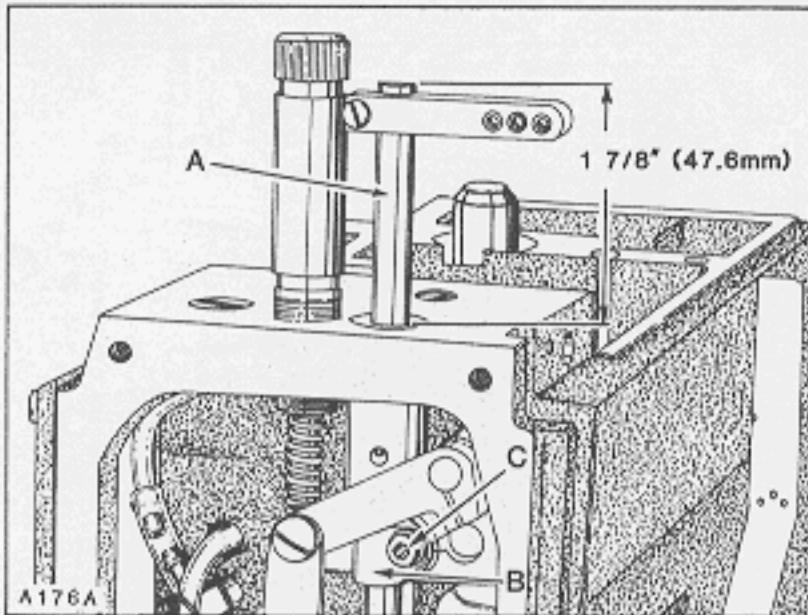
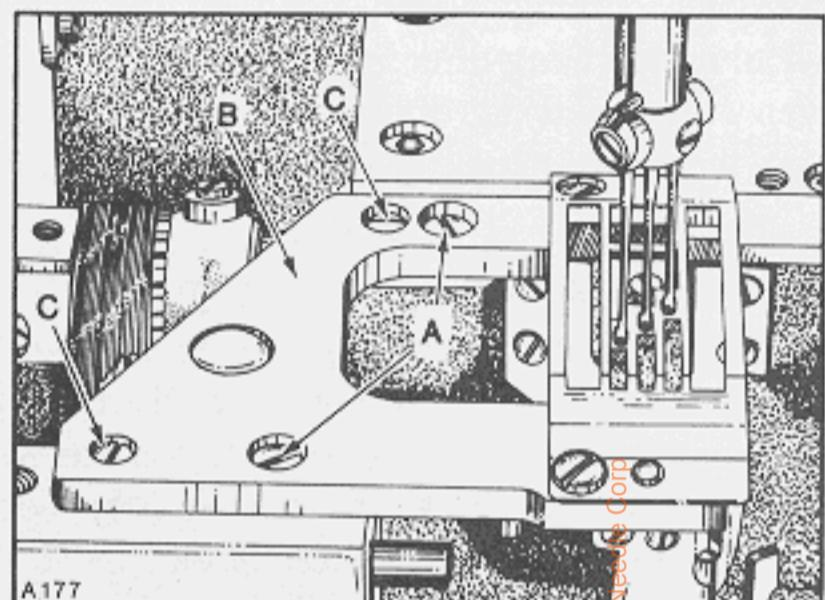

Fig.7
Fig.8
Rotate handwheel to ensure that needles center in the needle holes of throat plate as shown in Figure 8. Adjustment can be made by loosening screw (C, Fig. 7) slightly, allowing needle bar to be rotated as required, while being careful to maintain the temporary height setting and tighten screw (C) AS SPECIFIED. An additional 4-way directional adjustment of the throat plate can be accomplished as follows:
Insert a new set of needles. As a temporary setting, the TOP of needle bar (A, Fig. 7) should be approximately 1 7/8 inches (47.6mm) from the TOP of upper needle bar bushing when needle bar connection (B) is positioned at TOP of STROKE as shown in Figure 7. Adjustment can be made by loosening screw (C), reposition needle bar up or down as required and tighten screw (C) VERY LIGHTLY.
IMPORTANT: Adjustment of throat plate must be coordinated between needles and feed dog; refer to "FEED DOG SETTINGS". Loosen two screws (A, Fig. 8) in throat plate support (B). Loosen two screws (C) which secure locating ferrules, allowing the throat plate support to be repositioned slightly. Tighten screws (C) first, then screws (A).